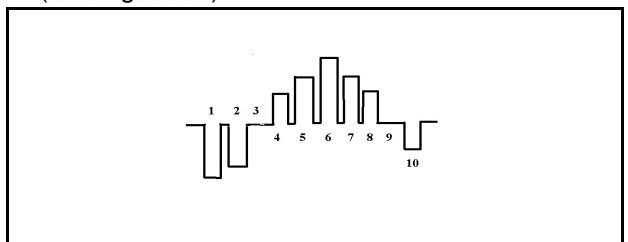

Figure 52. YC YUV tint Output Adjustment
5. Adjust B19(YUV tint) DAC data is min. At third-bar (see Figure 52).